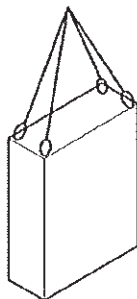

Fig. 13: Transport with a crane
1. Attach ropes, straps or multi-point suspension gear in accordance with Fig. 13.